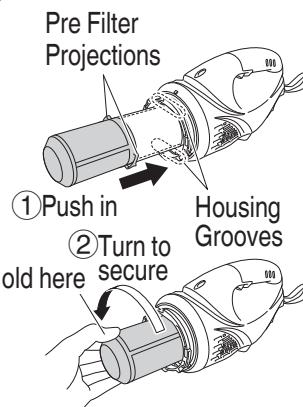

Fig. 10
(5) Install the pre-filter (Fig. 10)